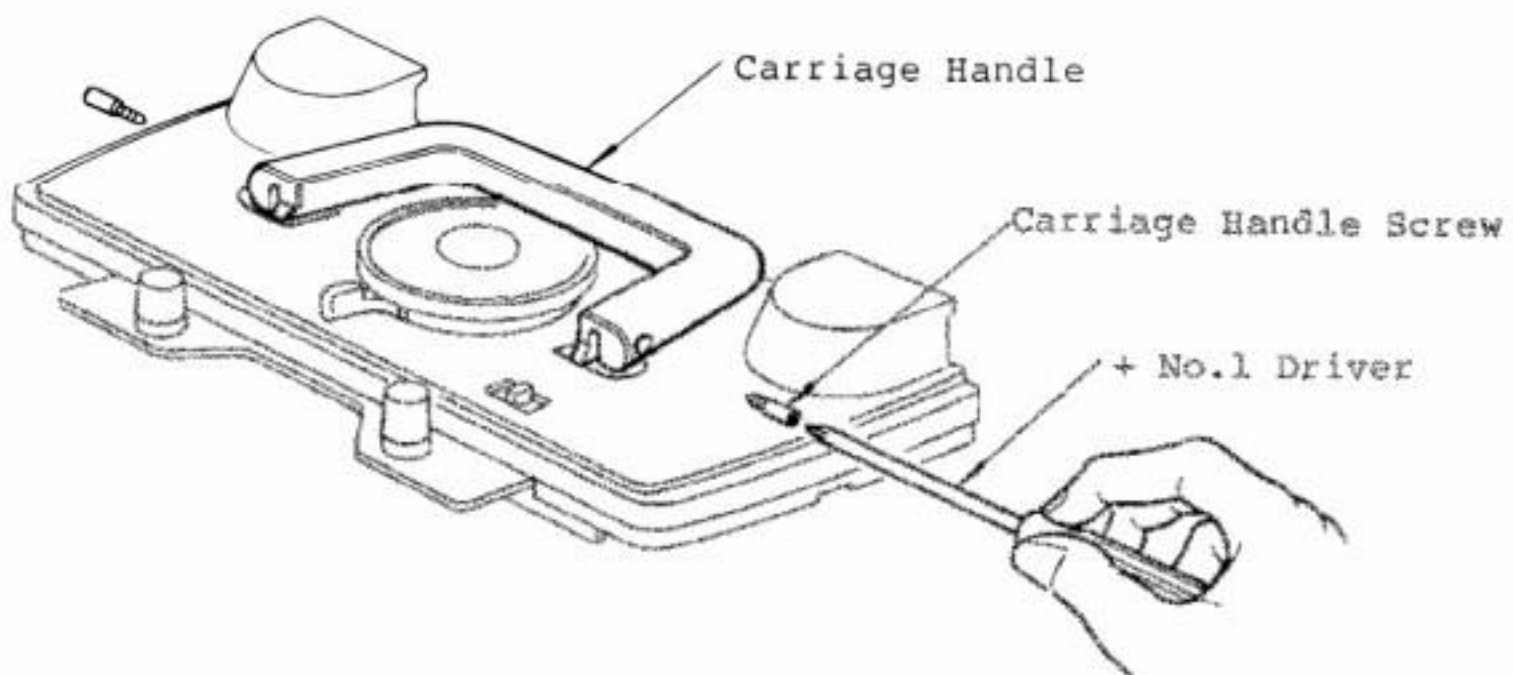

Fig. 58
7. With the Carriage Handle down, as illustrated in Fig. 58, secure it by inserting and fastening the two Carriage Handle Screws.